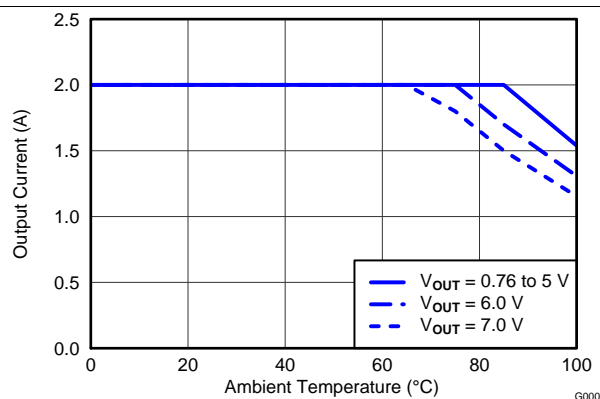

Figure 9. D Package Output Current vs Ambient Temperature
- (1) D package, V_{OUT} > 5 V (see Figure 9 for temperature derating)